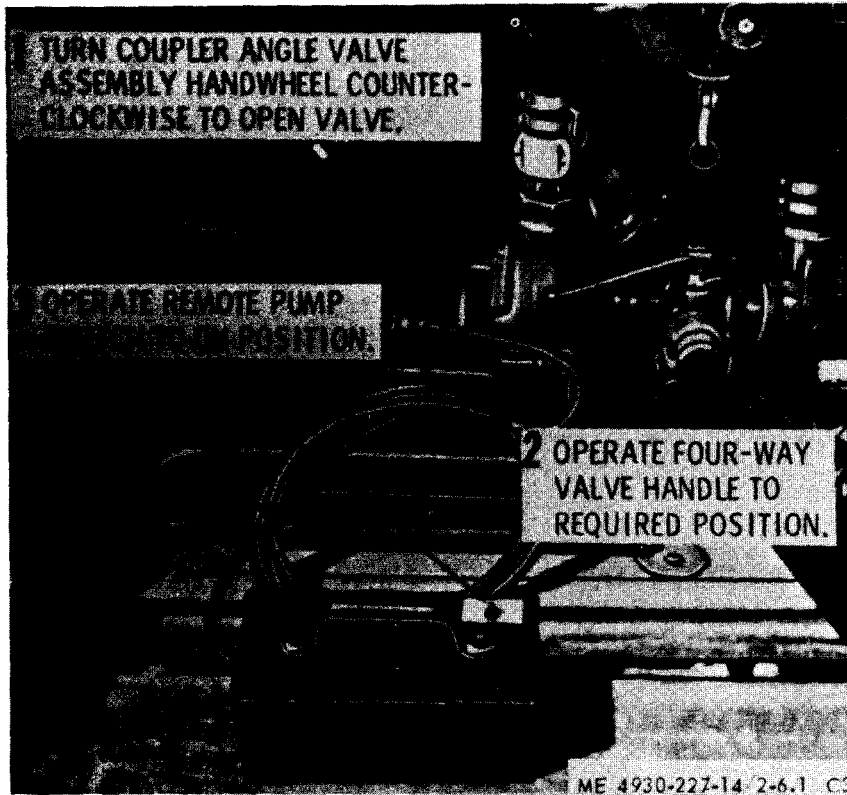

Figure 2-6.1. Starting instruction
c. *Starting Electric Motor Driven Pump.* Refer to figure 2-6.1 and start operation of the electric motor driven pump unit.